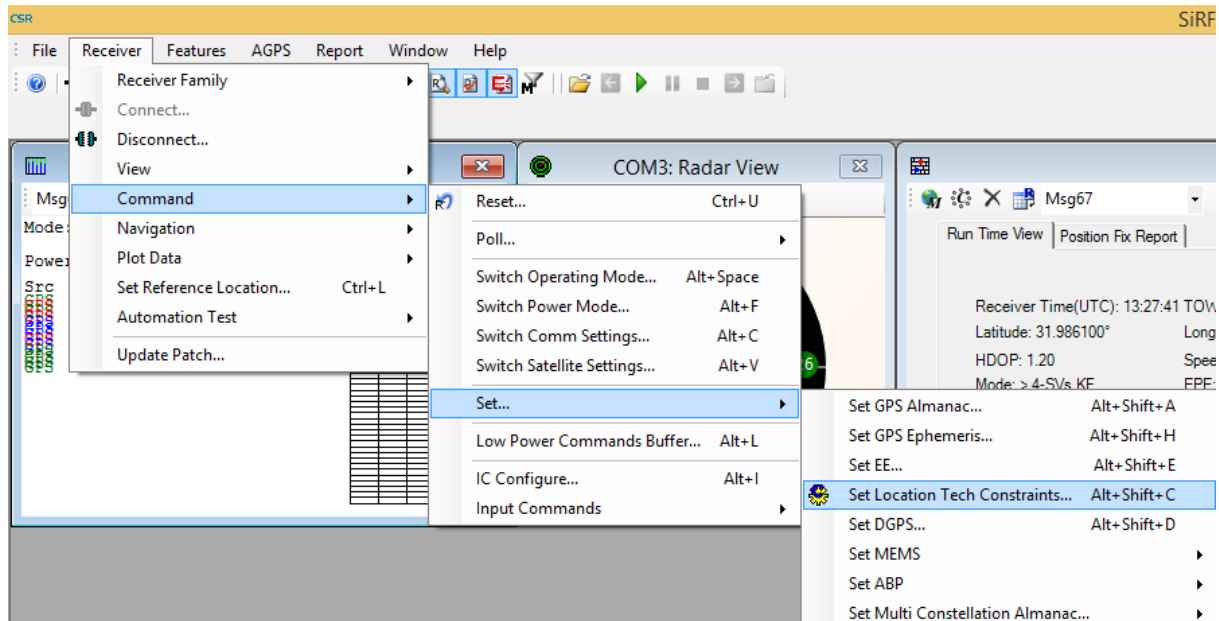

Figure 11 – “Set Location Tech Constraints” menu
5. For advanced satellite constellation setting, go to Receiver on top menu -> Command -> Set -> Set Location Tech Constraints (see figure 11).